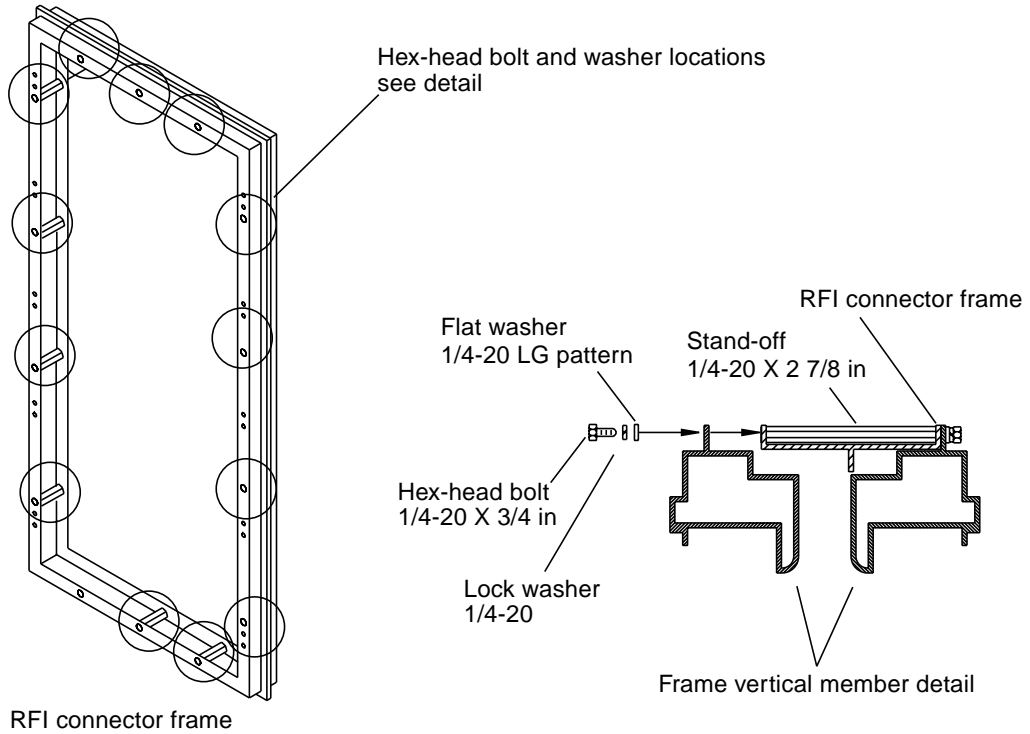

FIGURE B-6 RFI Connector Frame Bolts
4. **Using a 7/16-inch socket wrench, remove the hexagonal-head bolts and washers from the free end of the RFI connector frame on the HDSA expansion cabinet. Keep this hardware for connecting the cabinets in later steps; you will need seven sets of bolts and washers. See FIGURE B-6.**